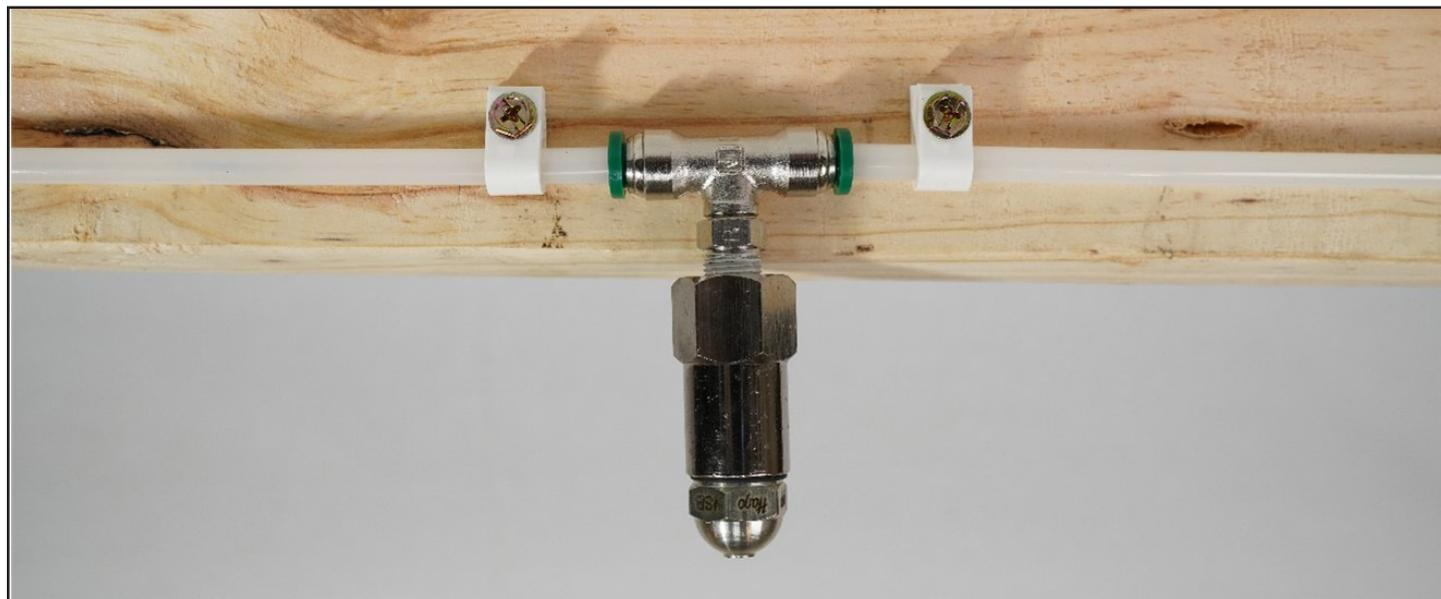

FIGURE 5
3. Push the tubing firmly into the side of the spray nozzle tee (Figure 5). Pull gently to confirm you have secure connections then push back in. If leakage occurs, remove tubing by pushing on the green circle, pushing the tubing in, pulling the tubing out and then releasing the green circle. Trim $\frac{1}{4}$ inch off the tubing before reinserting.
4. Using the plastic fasteners (Figure 5), or zip ties, install the tubing and spray nozzles above the center of each stall and six (6) feet inside each exterior door. Do not install above fifteen (15) feet from the floor. Use cable wire if necessary. Make sweeping turns with the tubing around corners to **avoid kinking**.